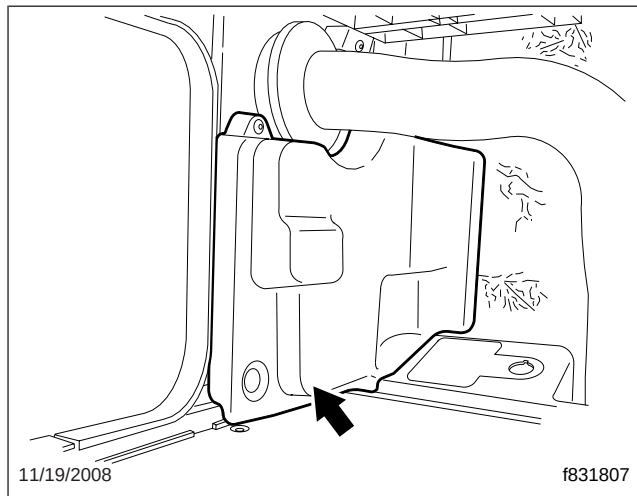

Fig. 1, Auxiliary Control Panel Access Cover
1. Remove the auxiliary control panel access cover from the inside of the cabinet stack. See Fig. 1.